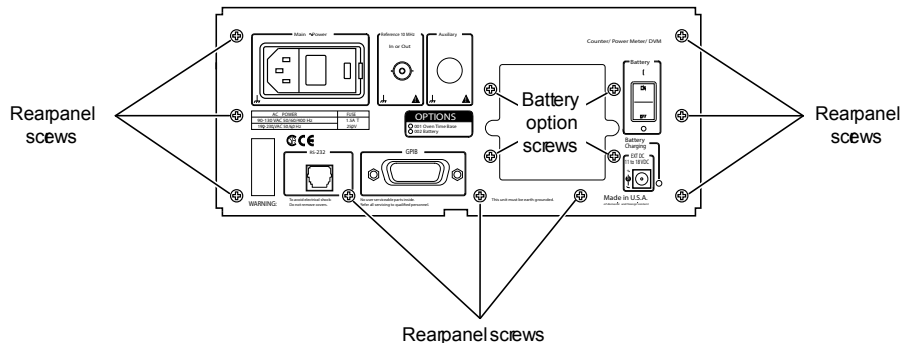

Figure 3-6 Rear Panel Assembly Screws
- 4 If the Battery Option is installed, remove the four 4-40 x 3/16-inch self-locking flathead machine screws that attach the rear panel assembly to the Battery Option chassis as shown in Figure 3-6 (two screws on each side of the opening).
- 5 Remove the nine 4-40 x 3/16-inch self-locking flathead machine screws that attach the rear panel assembly to the chassis (see Figure 3-6).